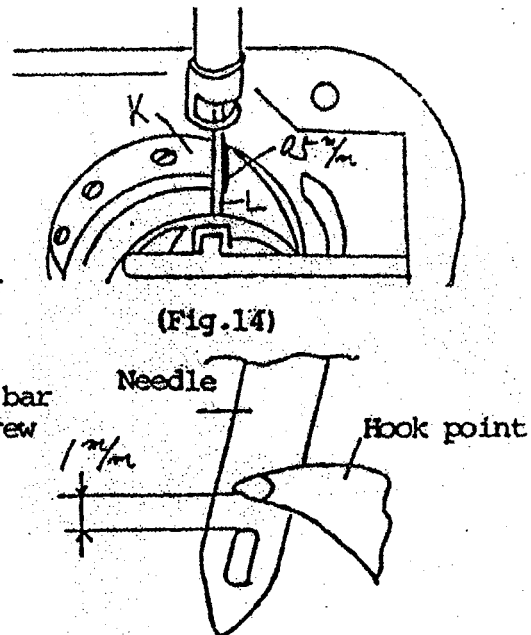

Fig. 15
3. Turn the hand wheel as far left and as low as possible. Make sure that the hook point travels 1mm above the eye of the needle. (See Fig. 15)